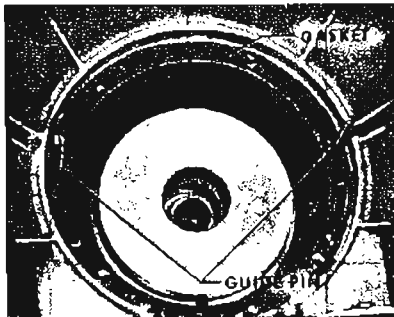

Figure 5-317
2. Install new pump gasket and guide pins. See Figure 5-317.